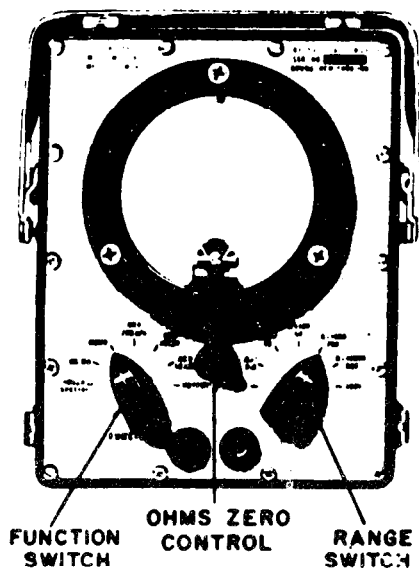

Figure 5. AN/PSM-6 operating controls.
*a. Function Switch* (fig. 5). The FUNCTION switch is located at the lower left of the multimeter panel and provides the means for setting the instrument for the particular electrical characteristic to be measured.
*b. Range Switch* (fig. 5). The RANGE switch is located at the lower right of the panel. Once the FUNCTION switch has been set, the correct instrument range to provide an accurate scale indication is set with the RANGE switch.
*c. Ohms Zero* (fig. 5). The OHMS ZERO control is located directly below the meter on the panel, and is used only in resistance measurements to zero the meter for changes in range or battery voltage.